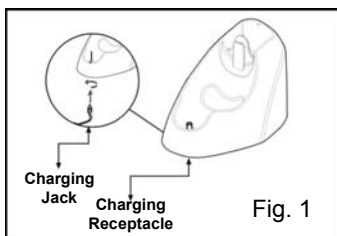

Fig. 1
3. Place the unit in the charging base. The charging indicator light will shine red to indicate that the vacuum cleaner is properly positioned in the charging base and that the unit is being charged. (See Fig. 1)